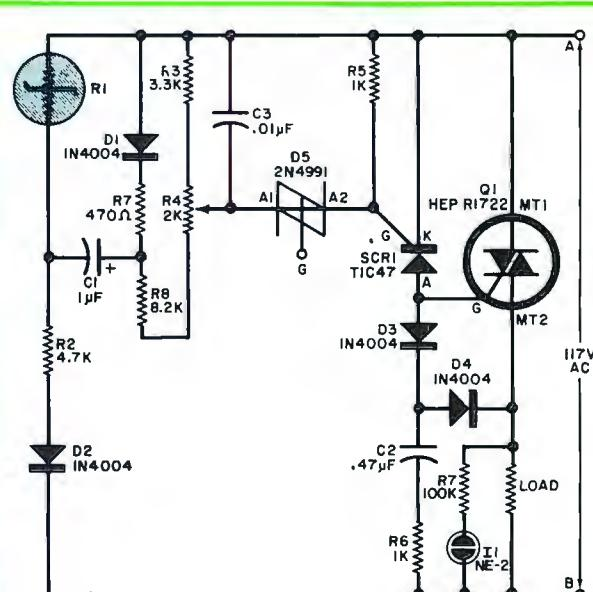

Fig. 1. Sensor R1 triggers thyristor firing circuit when heat is needed
**Circuit Operation.** As the power line's phase angle increases from 0°, the voltage at point A in Fig 1 becomes progressively more positive with respect to point B. Diodes  $D1$  and  $D2$  are both forward biased, and the voltage across  $R1$  (the thermal sensor) continues to rise as the phase angle approaches 90°. The value of  $R2$  is chosen so that, at some point before 90°, sufficient voltage develops across  $R1$  to turn it on, and its impedance drops from a high to a low value. The lower the Moxie's temperature, the higher the voltage across it must be to turn it on. Thus, the value of  $R2$  is determined